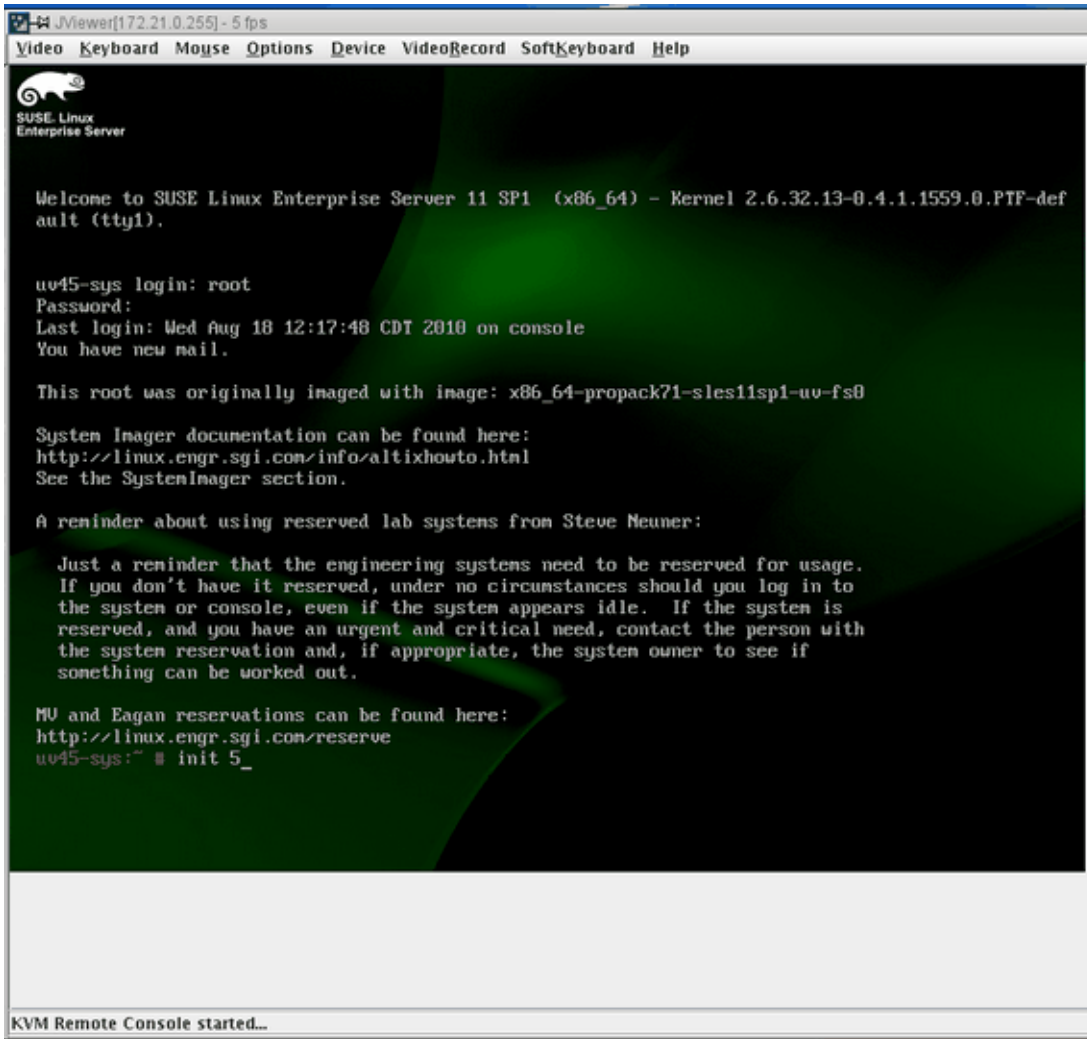

Figure 3-10 JViewer Operating System Login Screen
13. The operating system login screen appears. At the prompt enter **init 5**, as shown in Figure 3-10 on page 52.